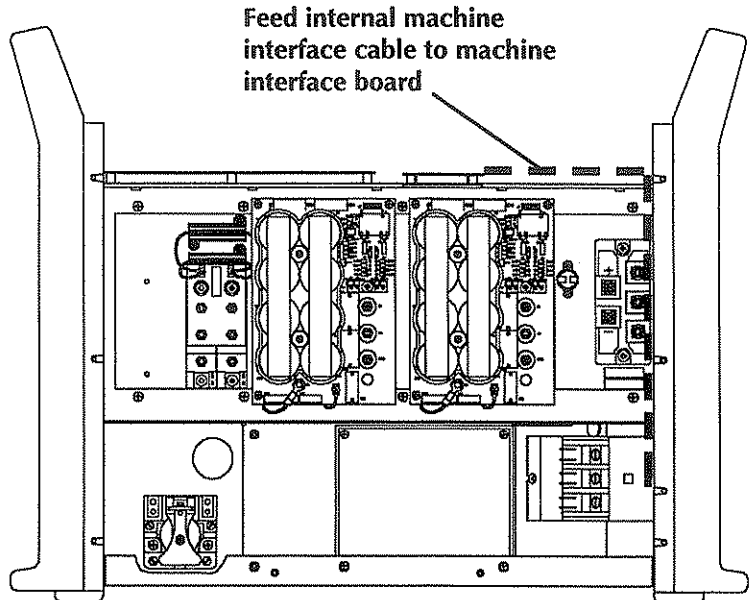

Figure 8- Feeding Internal Machine Interface Cable to Board
15. Feed the internal machine interface cable from the rear panel up to the machine interface board - Fig. 8.